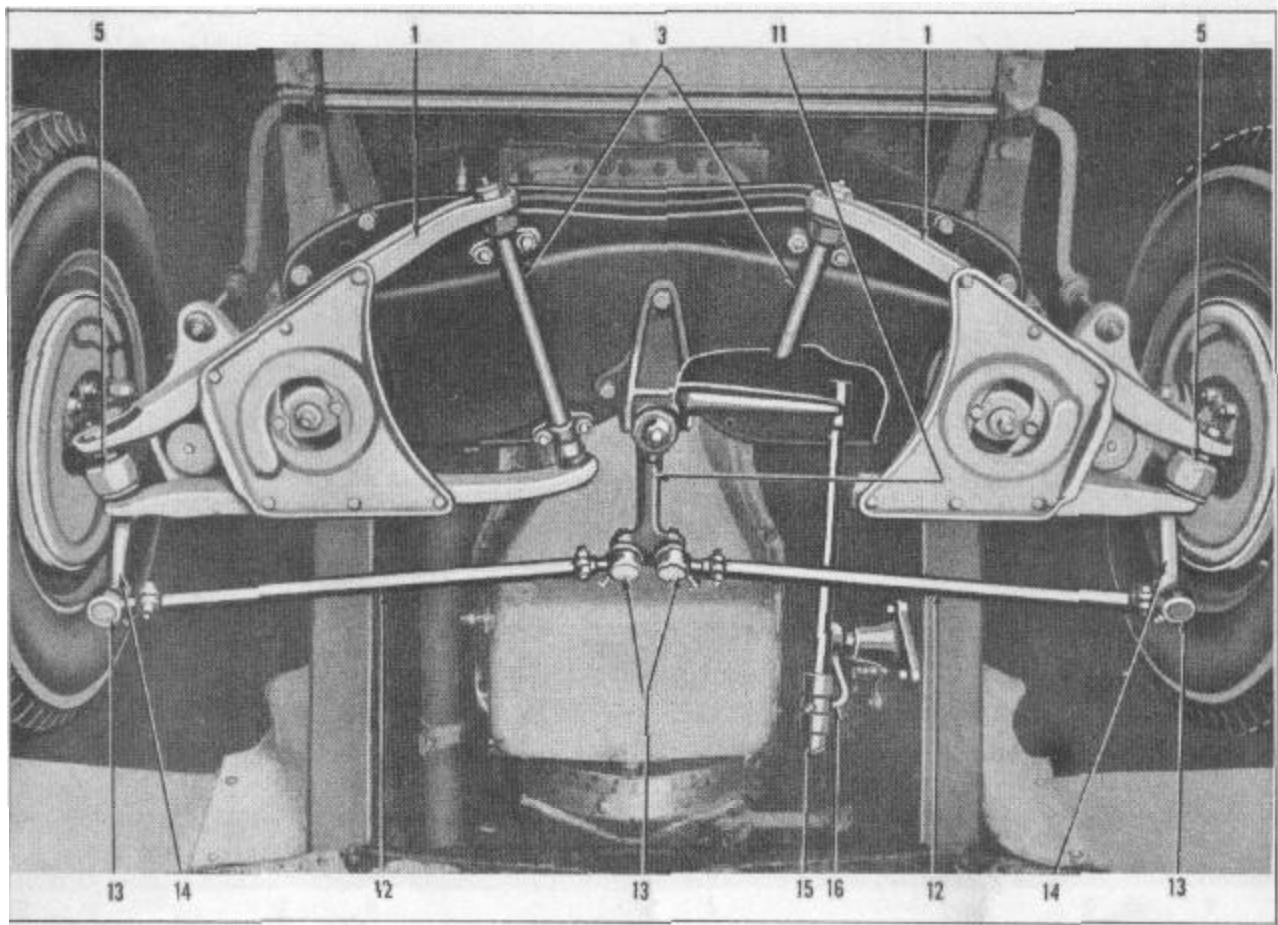

FIGURE 2
7. Remove stabilizer connector (8).
8. Remove outer tie rod end (13) Figure 2, from steering arm using Tool J-2781.
9. Remove fourbolts from brake backing plate and attach backing plate (9) under fender to protect brake hose.